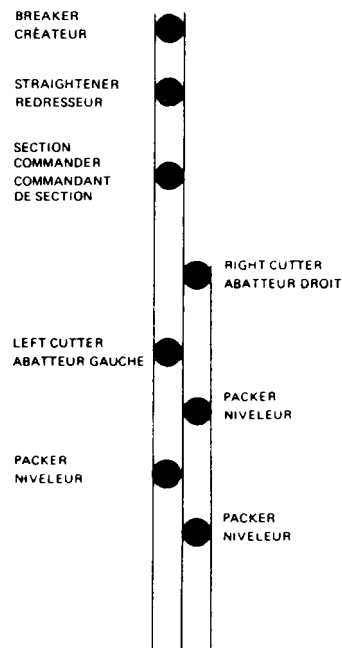

Figure 5-5 Breaking a Triple Track
- d. Thereafter, men alternate skiing in the right and left tracks (see Figure 5-5).